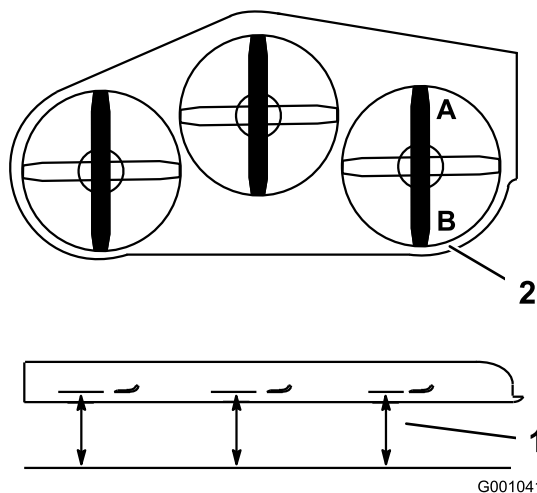

Figure 66
1. Position the right blade front-to-rear (Figure 66).
2. Measure the right blade at the **A** location, from a level surface to the cutting edge of the blade tip (Figure 66).
4. Measure the right blade at the **B** location, from a level surface to the cutting edge of the blade tip (Figure 66).
6. The mower blade should be a 1/4 to 3/8 inch (6 to 10 mm) lower at position **A** than at position **B** (Figure 66). If it is not correct, proceed to the following steps.